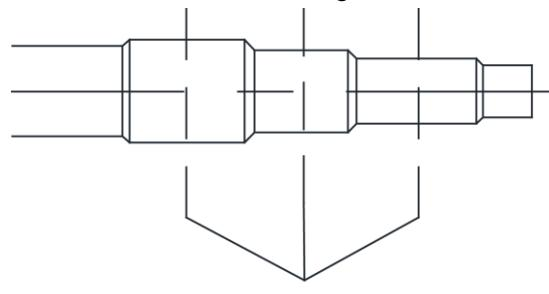

Fig. 4.4.3
(2) Manifold has several pipe sections with different pipe size, which facilitates to match with various copper pipe. Use pipe cutter to cut in the middle of the pipe section with different pipe size and deburr as well. See Fig. 4.4.3.